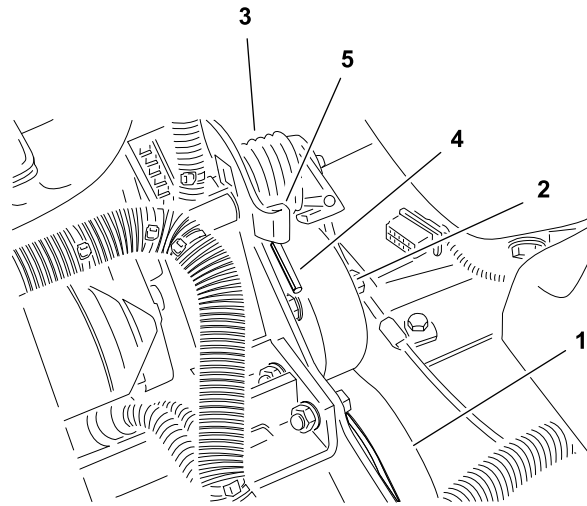

Figure 66
3. Remove pump drive belt tension from torsion spring on idler arm (Figure 66).
4. Apply pump drive belt tension with torsion spring on idler arm (Figure 66).